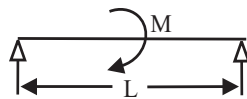

Fig 2
Q.2. Draw SF and BM diagram for the beam with a central moment M as shown in fig 2.